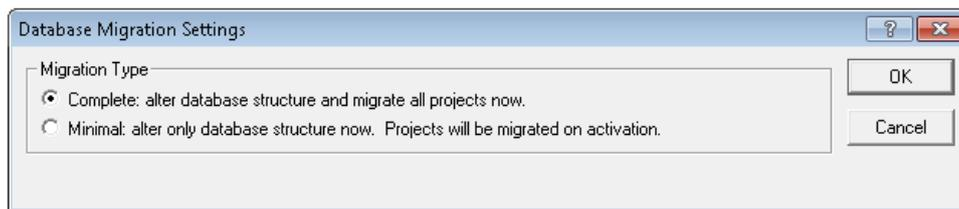

Figure 2.1: New migration dialog
**PowerFactory** will automatically start the migration when upgrading to a new version. In this process, the user can select whether to run a complete migration or a minimal migration (see Figure 2.1). For larger installations, the latter option is recommended.